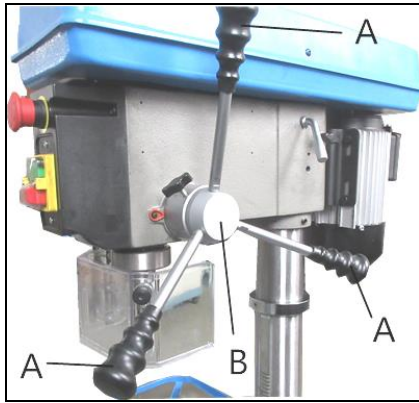

Fig 5
Install three down feed handles (A, Fig. 5) into the down feed hub (B).